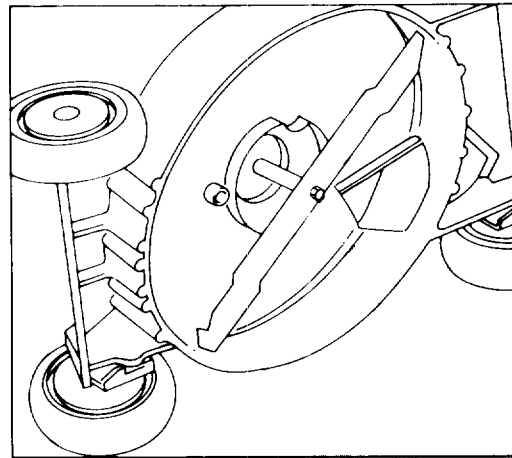

Figure 22
3. Tip mower on its right side (Fig. 22). Avoid rotating blade as starting problems may result.